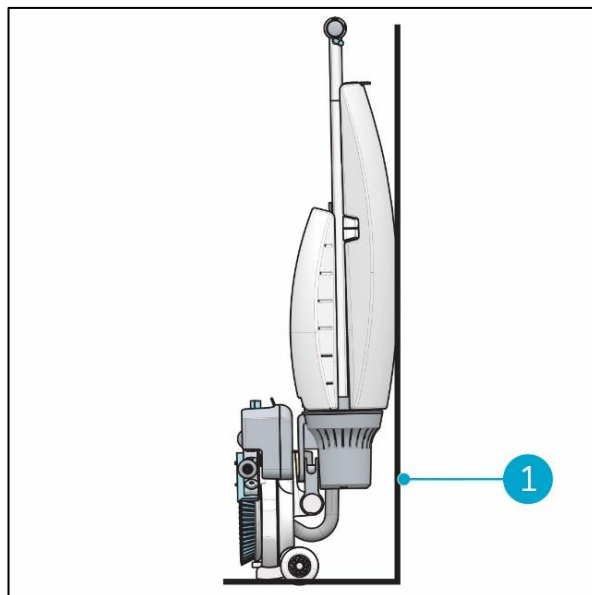

Figure 24
3. Store the i-mop Lite close to a wall (Figure 24, pos 1) with the handle pointing towards the wall and the brushes facing away from the wall.